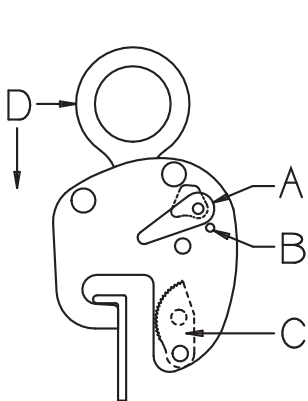

Figure 4: Locked Open
3. Upon reaching the material’s destination, lower the clamp and material to a secure position until the tension is relieved on the lifting shackle (E, Fig. 4).
4. Once the load is at rest and secured, rotate the lock handle (A, Fig. 4) to the locked open position. This will disengage the clamp from the material and lock the gripping cam(s) (C, Fig. 4) out of the jaw opening to protect the gripping teeth. If the clamp is in a hard to reach position, push in on the lifting shackle (E, Fig. 4) after the lock handle (A, Fig. 4) is released to help facilitate locking the clamp open.